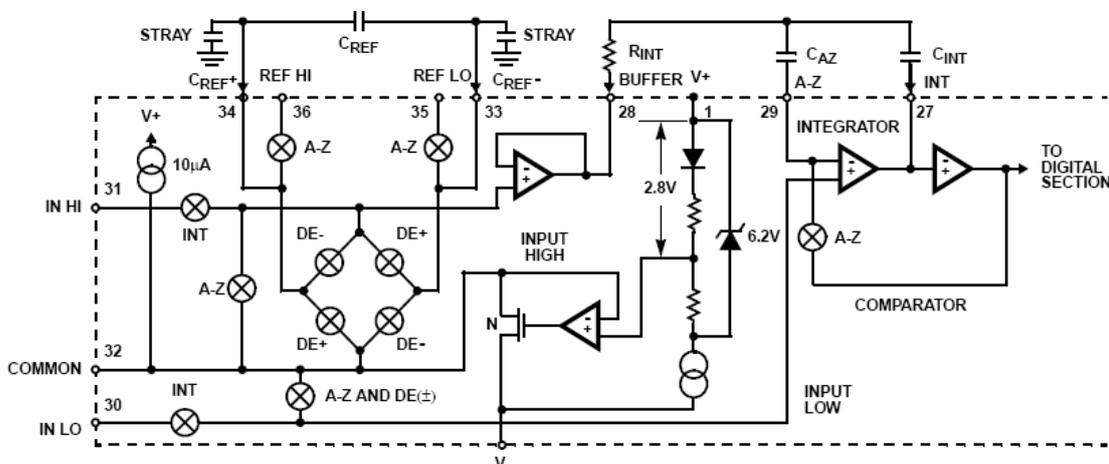

FIGURE 2. ANALOG SECTION
Figure 2 shows the Analog Section. Each measurement cycle is divided into three phases. They are (1) auto-zero (A-Z), (2) signal integrate (INT) and (3) de-integrate (DE).